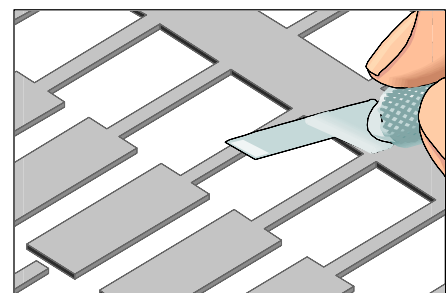

Figure 3: Cut out the new surface mount pad.
9. Cut out and trim the new pad. Cut the length to provide the maximum allowable circuit overlap for soldering. Minimum 2 times the circuit width. (See Figure 3).